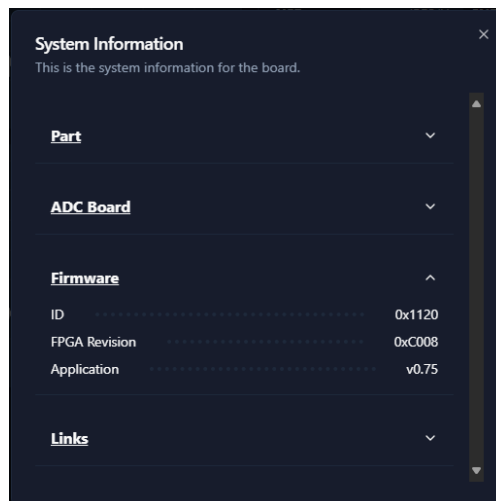

Figure 10: System Information - Firmware.
- Click the System Information button located in the upper-right corner of the GUI. The System Information pop-up window will appear (see Figure 10).